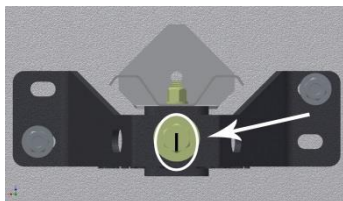

Figure 4
1. Place a line using a marker on the top of the bolt. (Figure 4)